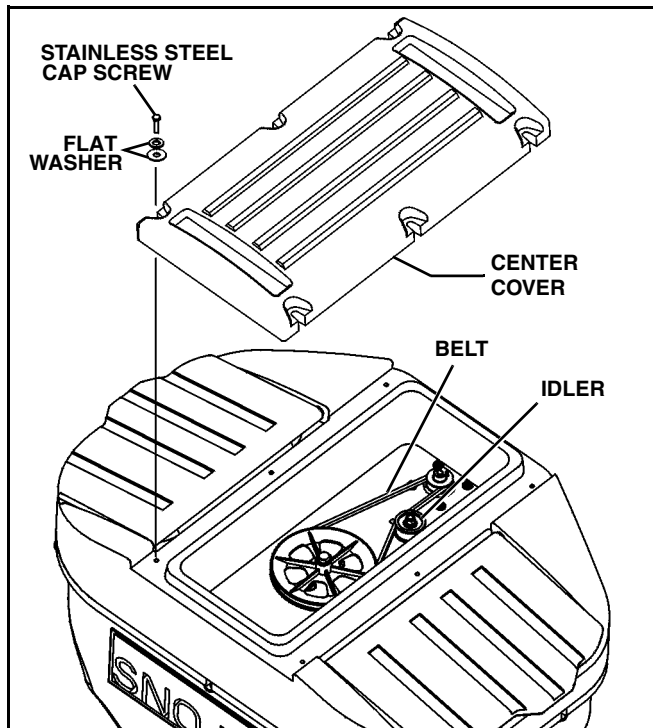

Figure 3-9
3. Remove center cover from hopper by undoing the six stainless steel cap screws that hold down the cover. (See Figure 3-9)